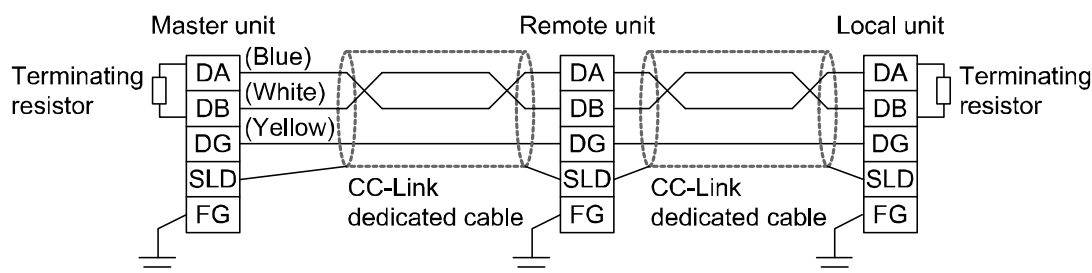

Fig. 2
(2) Be sure to connect a terminating resistor between “DA” and “DB” at both ends of the CC-Link system. (Refer to Fig. 2)